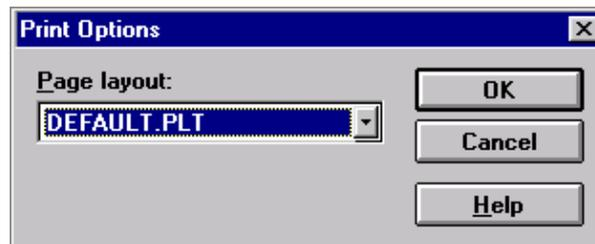

Fig. 51 The Print Options dialog box.
- 3 Select 'Print Options', and the Print Options dialog box appears, see Fig. 51.